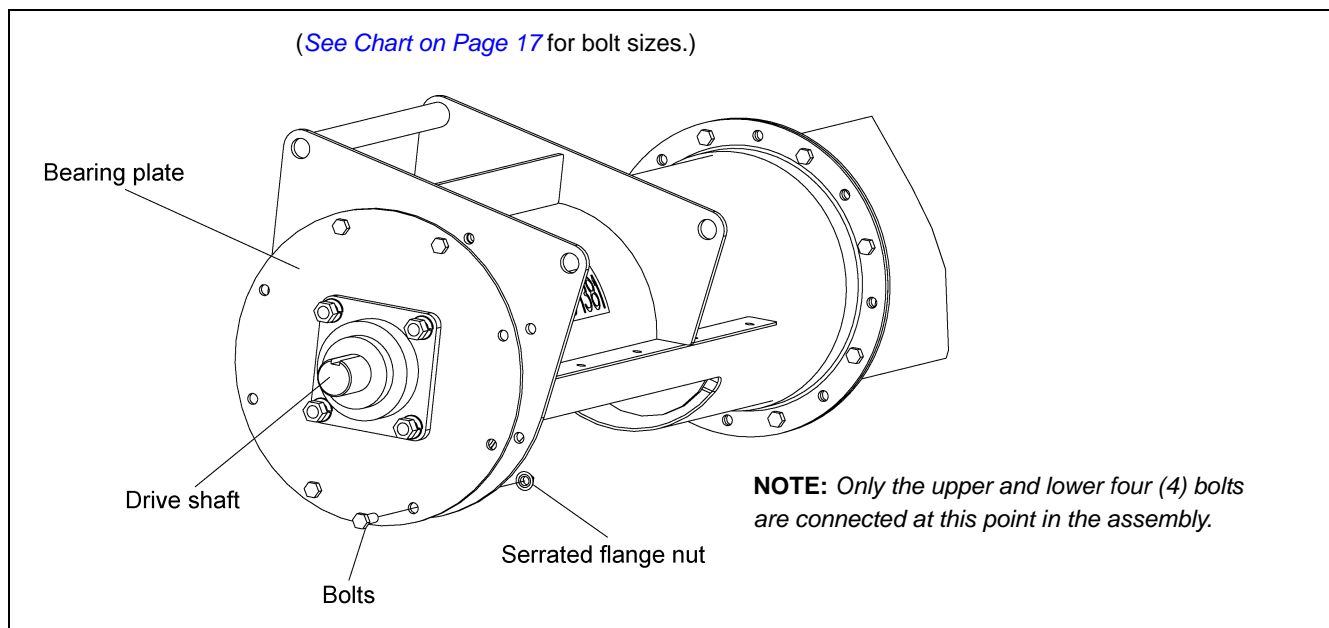

Figure 4I
- Only secure with UPPER and LOWER four (4) bolts. (*See Figure 4I on Page 18.*) The other four (4) bolts will be installed later with the belt guard mounting brackets.